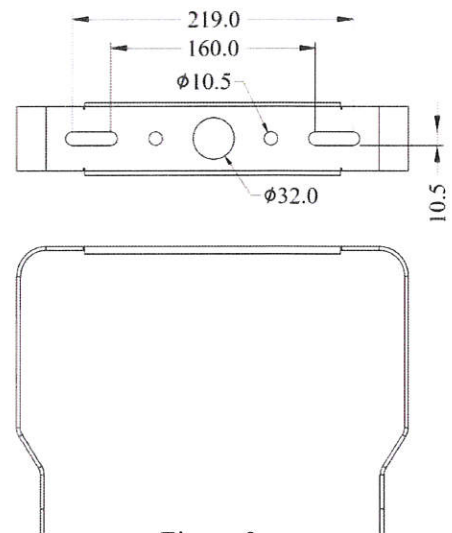

Figure 3
- Secure the mounting bracket to the structure by using four fasteners (not provided). (Figure 3)